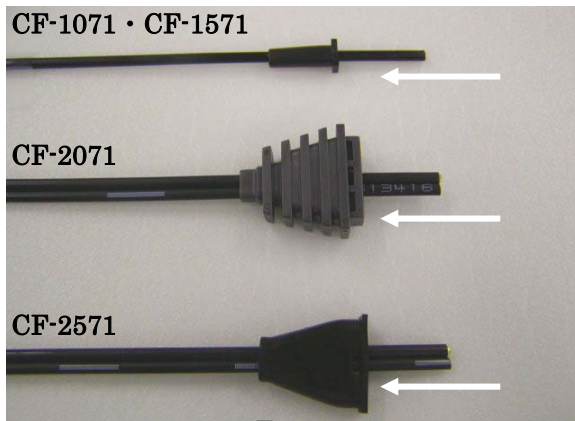

Fig.7
(1) Insert the optical fiber cord from the bottom(smaller) mouth of the cord bush. (Fig.7)